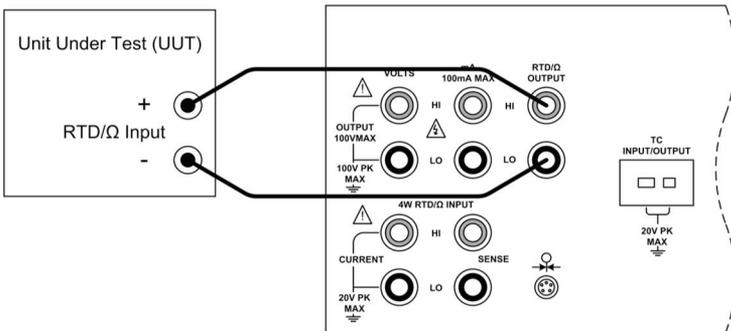

Figure 13 - RTD/Ω Output Connection
- e) Connect the unit under test to the RTD/Ω output terminals of the PD9500 as shown in figure 13.